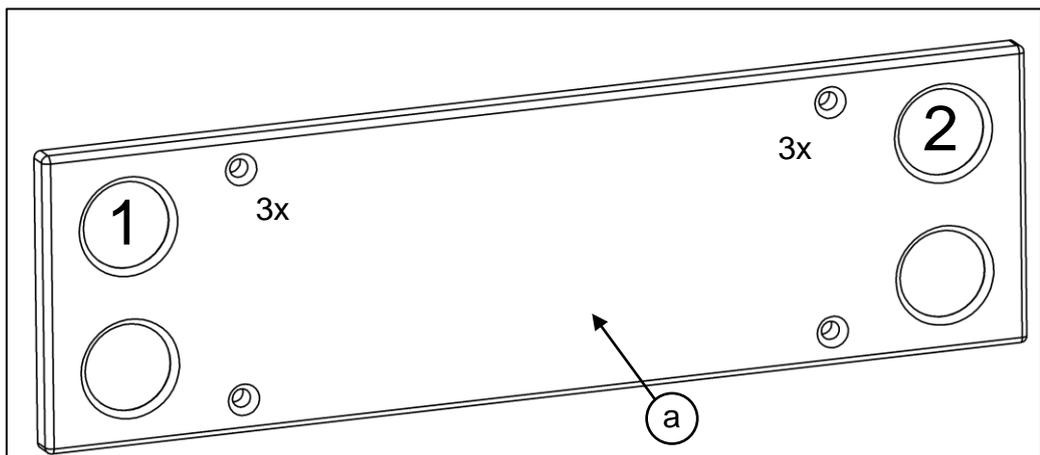

Fig. 89
- On the control panel (a), press button 2 (top right) 3 times (see Fig. 89).